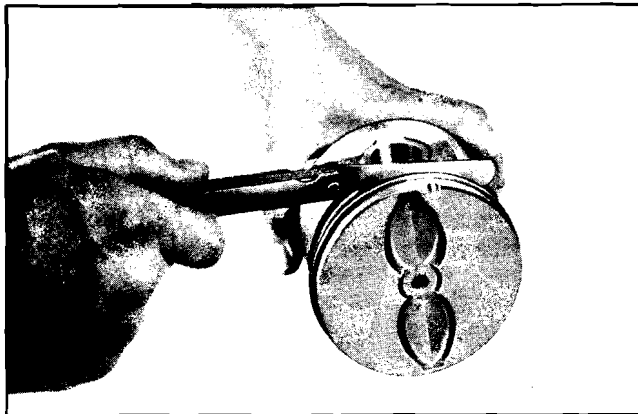

Fig. 6-125 Measuring Side Clearance of Ring in Groove
5. Measure side clearance of rings in ring groove (Fig. 6-125) as each ring is installed. Clearance with new pistons and rings should be .0015"-.0050".